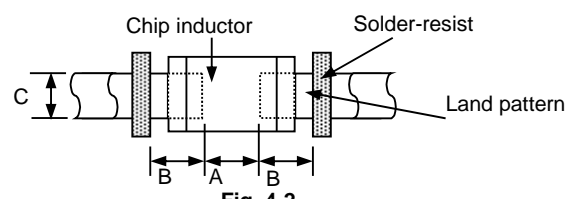

Fig. 4-2
- 1) Dimensions and recommended PCB pattern for reflow soldering: See Fig.4-1, Fig.4-2 and Table 4-1.